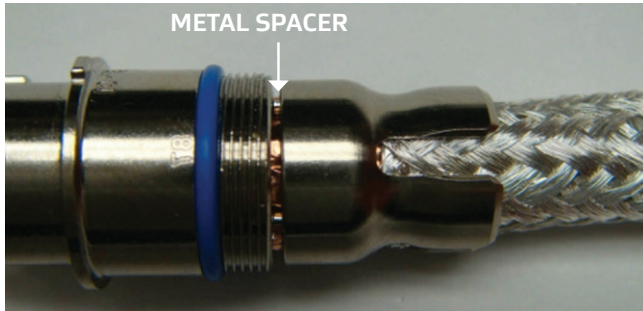

Figure 38: Seating the inner ring
14. Remove the tape holding the backshell and inner ring. Slide the inner ring over the braid and wires until it seats over the metal spacers (Figure 38).